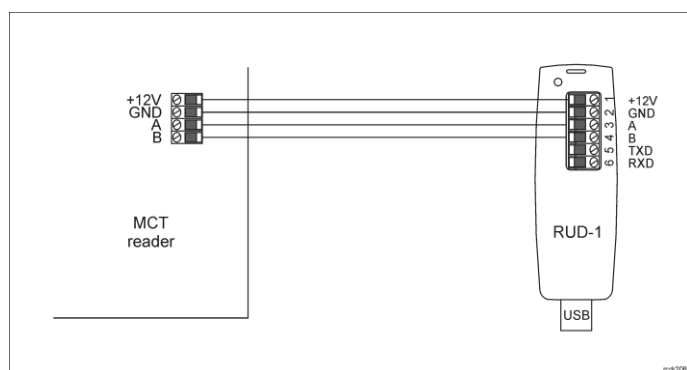

Fig. 1 Connection of MCT reader to RUD-1 interface for configuration
1. Connect the reader to RUD-1 interface (fig. 1) and connect the RUD-1 to computer's USB port.